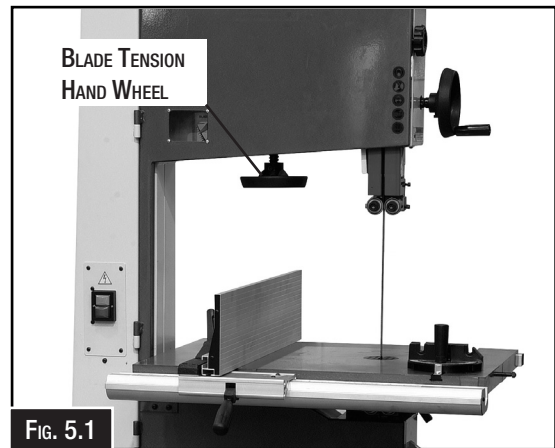

Fig. 5.1
**Blade Tension Hand Wheel:** Adjusts the tension on the blade. (Fig. 5.1)